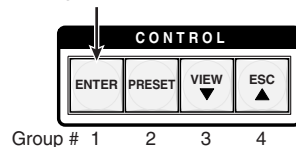

Figure 3-30 — Select an I/O group
3. Press and release the Enter button to select group 1 (figure 3-30).